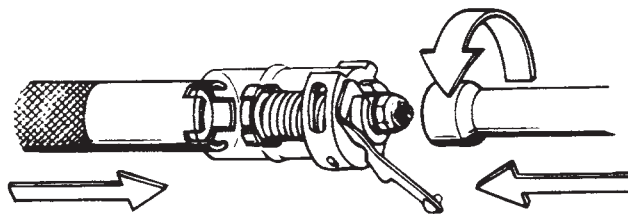

Figure 2
- a) Place the poppet wrench (G1100-05) over the sealing end of the poppet (item 9).
- b) Use the $\frac{1}{4}$ " nut driver portion of Lever Height Adjustment Tool (G1016-84) to turn the locknut (item 17) counter clockwise to remove. *Figure 2.*